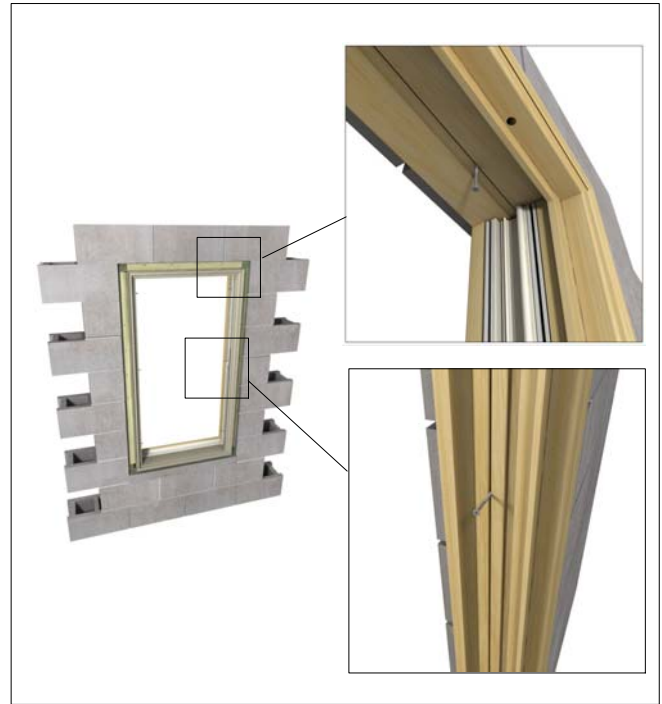

Figure 9: Exterior View, fastening through UDH frames.
- On **Ultimate Double Hung** units, locate the screw in the jamb carrier kerf (jambs) and in the kerf used to hold the parting stop (head jamb). Make sure to countersink the screw so that it doesn't interfere with installation of the jamb liner and/or parting stop. See figure 9.